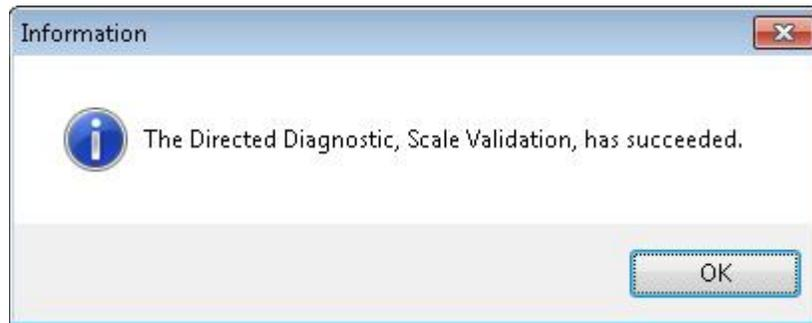

Figure 1-6. Succeeded Message
18. Click **OK** button to close Information Dialog (Figure 1-6).